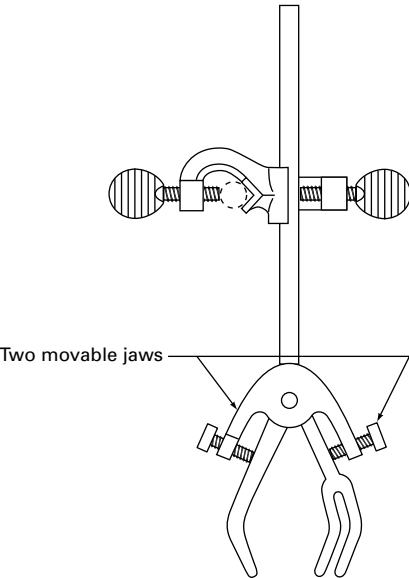

FIGURE 18.3 The three-fingered clamp with clamp fastener.
3. **The three-fingered extension clamp** (Fig. 18.3). This is truly the Cadillac of clamps, with a price to match. They usually try to confuse you with *two thumbscrews* to tighten, unlike the regular extension clamp. This gives a bit more flexibility, at the cost of a slightly more complicated way of setting up. You can make life simple by opening the *two-prong bottom jaw to a 10° to 20° angle from the horizontal and treating that jaw as fixed*. This will save a lot of wear and tear when you set equipment up, but you can *always move the bottom jaw* if you have to.